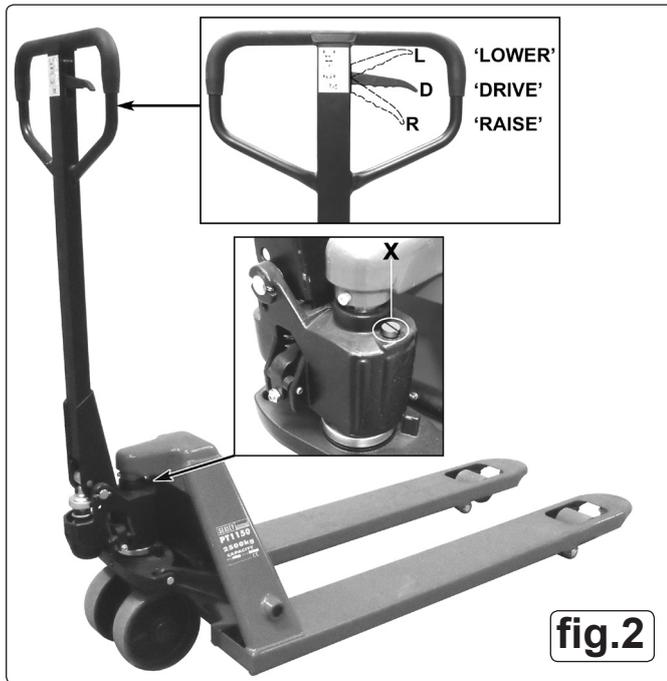

fig.2
- 4.1 The control lever (see fig.2) has three positions as follows:-
- 5.5 **Lowering the truck. (See fig.2 - L)** Before inserting the truck into the pallet ensure that the truck forks are in their lowest position by pulling the operating lever into the upper position and holding it there until the truck has settled down to the lowest level.
- 5.6 **Drive position. (See fig.2 - D)** The lever can now be released and will return to the middle drive position.
- 5.8 **Raising a load. (See fig.2 -R)** To lift the load push the operating lever to its lowest position where it will latch. Pump the handle up and down to lift the load from the floor. When the forks reach their maximum height the lifting action will stop even if you continue to pump the handle.
- 6.1 The oil level should be checked every six months. The system contains 0.4lt of hydraulic oil which should conform to ISO VG32. The viscosity should be 32cSt at 40°C . (See oil level / filler screw 'X' in fig.2) Sealey hydraulic oil is ideal.